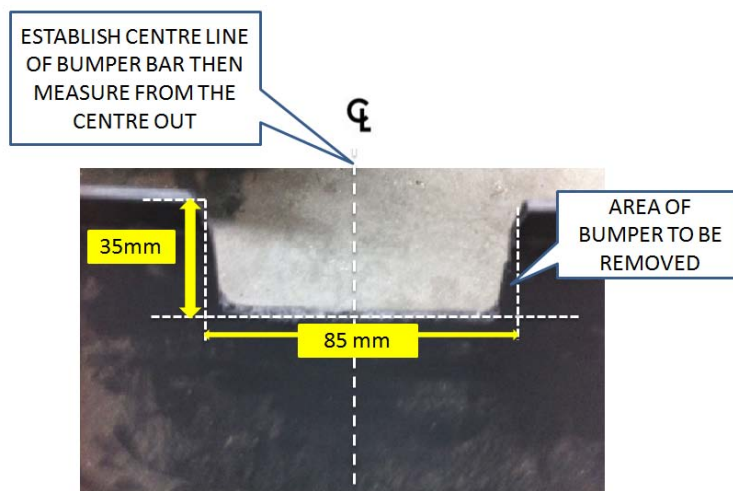

Fig 1
8. Cut the bumper as shown in Figure 1